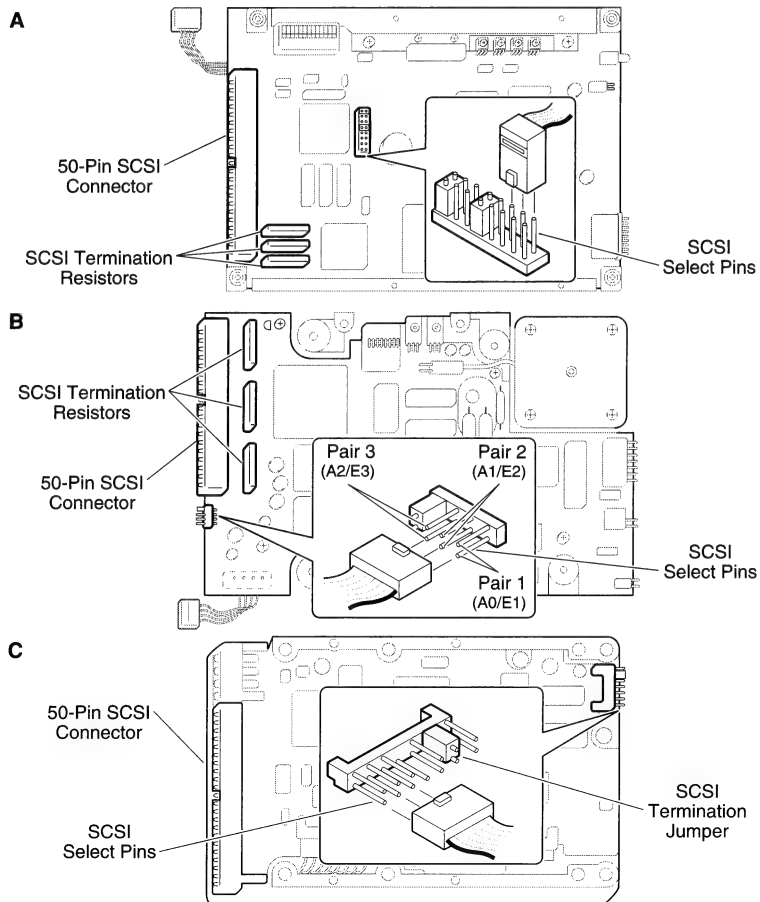

Figure 3 Common SCSI Select Pin and Terminator Resistor Locations
2. FIGURE 3. SCSI select pins are usually located: 1) on top of the controller board, sticking up (Figure 3A), or 2) on the back of the drive, just beside the 50-pin SCSI connector